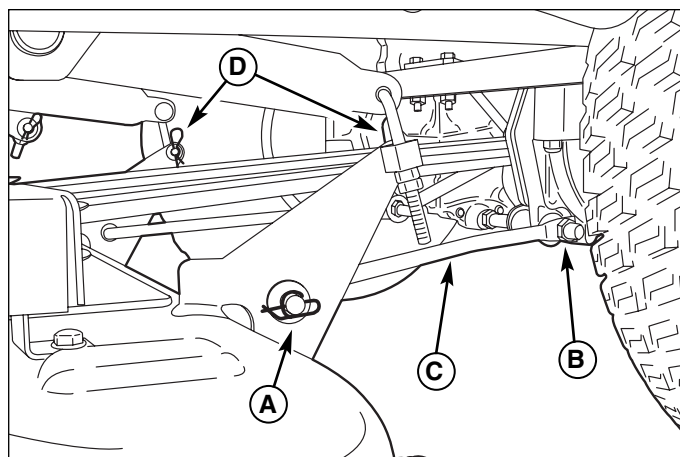

Figure 11. Rear Deck Lift Components
4. Remove the self-locking cotter pin and washer (A, Figure 11) securing the front of each stabilizer rod (C) to the rear mower deck brackets. Also remove the outer lock nut (B) securing the rear of each stabilizer rod to the mounting bolt on the transmission casing. Remove the stabilizer rods and retain all removed components.
5. Remove the hairpin clips and washers (D, Figure 11) securing the rear mower deck brackets to the rear lift arm rod swivels, and pull the swivels out from the holes in the brackets. Retain all removed hardware.
5. Insert the rear lift arm rod swivels into the top holes in the rear mower deck brackets, and secure each with a washer and hairpin clip (D, Figure 11).
6. Install the rear end of each stabilizer bar (C, Figure 11) onto the mounting bolt on the transmission casing, securing with a lock nut (B).